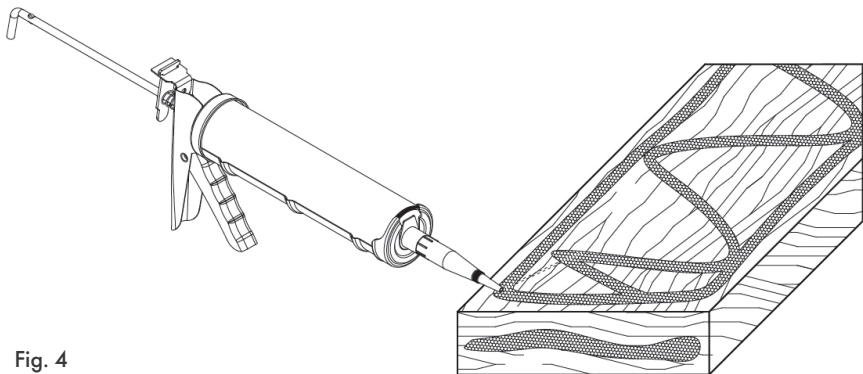

Fig. 4
- C. Prior to installation of the buck apply a 3/8" bead of silicone on the face of the wood buck around the entire perimeter (see figure 4) This seal will be smashed to the masonry opening when the wood buck is applied to it.